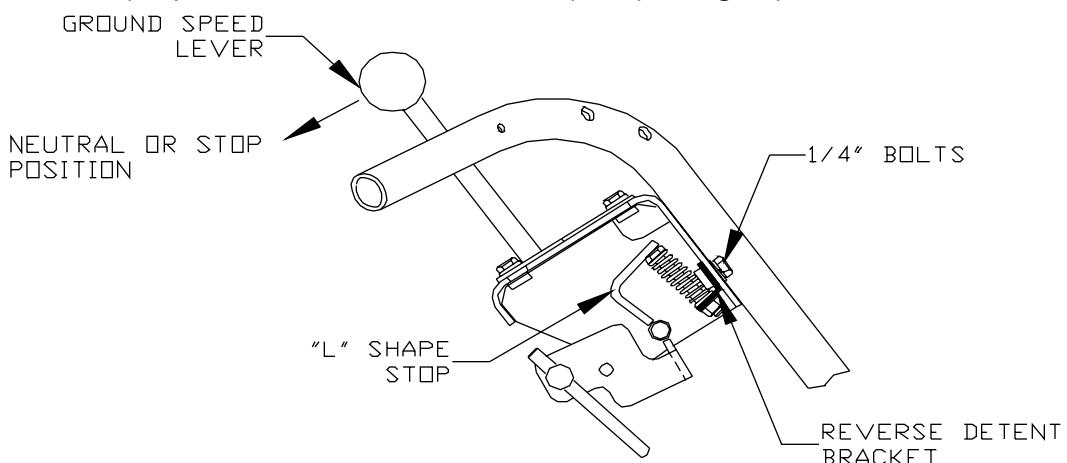

Figure 4
4. Loosen the two 1/4" bolts holding the reverse detent bracket. Slide the bracket up or down till it just touches the "L" shape stop under the console. Holding the bracket against the stop retighten the two 1/4" bolts.(Repeat on other side if needed.) (see fig. 4)